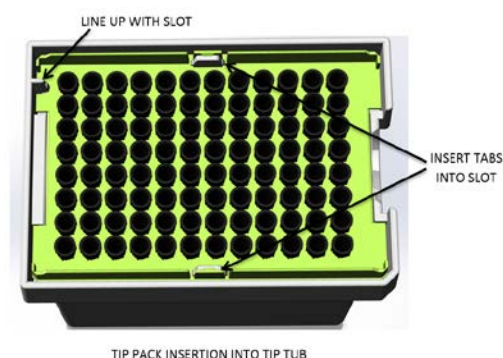

Figure 5-14: Tip rack aligned and inserted into tip container
5.7.2.1. Alignment features of the tip container are keyed to allow tips to be set into place in the proper orientation (See Figure 5-14).